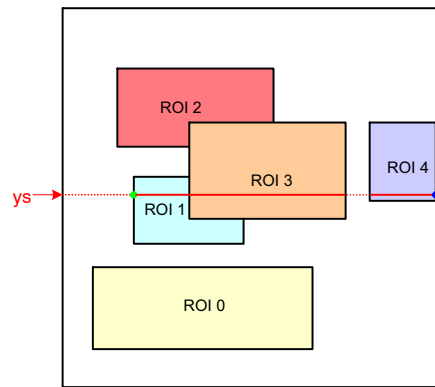

Figure 26. Scanning the Image Array with Five Windows
Figure 26 illustrates a practical example of a configuration with five windows. The current position of the read pointer ( $ys$ ) is indicated by a red line crossing the image
- The read pointer is not necessarily incremented by one, but depending on the configuration, it can jump in y-direction. In Figure 26, this is the case when reaching the end of ROI0 where the read pointer jumps to the y-start position of ROI1